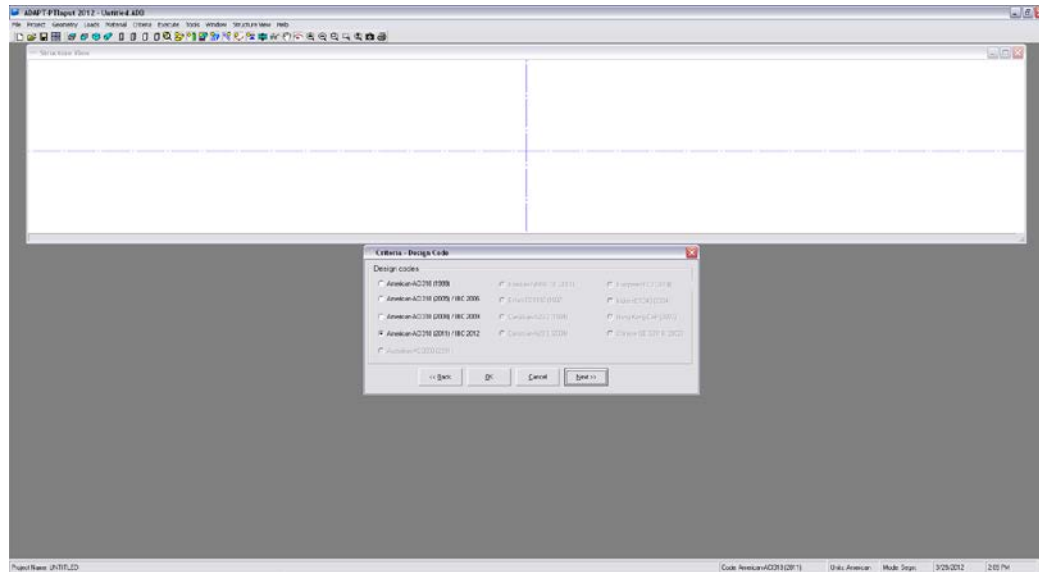

FIGURE 5.3-2
5.3.1.2 Design Code (Fig. 5.3-2)
At the onset of the new model, we already selected the **ACI318-2011/IBC 2012**. This should be selected in the Design Code Screen as shown in **Fig. 5.3-2**.